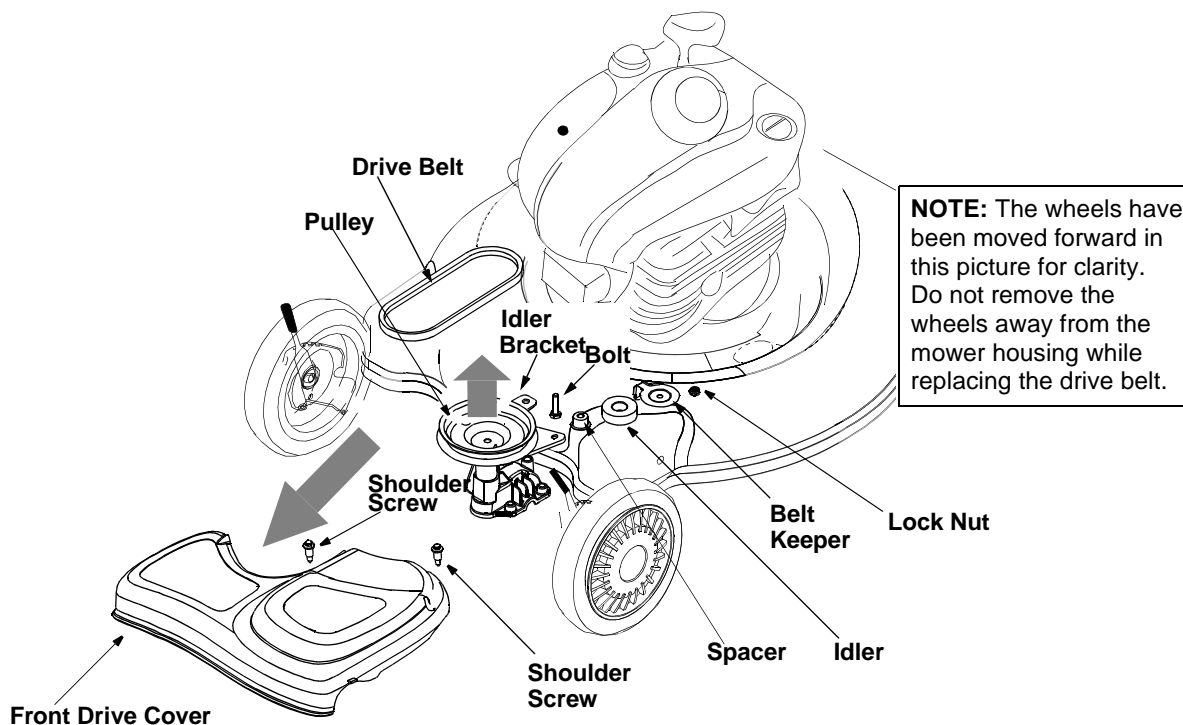

Figure 20
- Remove the belt from the transmission pulley as shown in Figure 20.